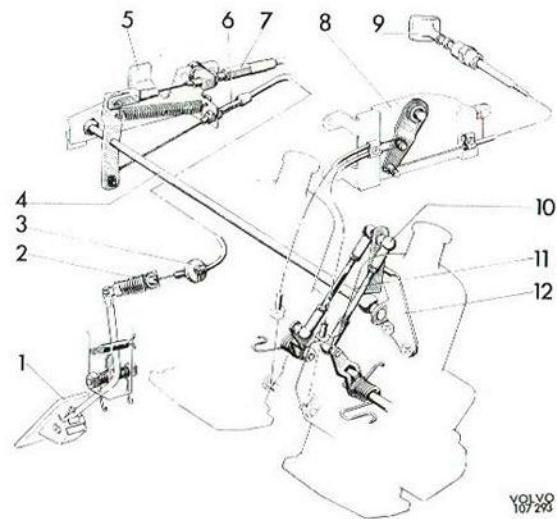

Fig. 2-128. Throttle and choke control linkage, left-hand steered vehicle
16. Check that the cable (Fig. 2-128) is well-stretched and if necessary adjust with the cable sleeve adjustment (6).